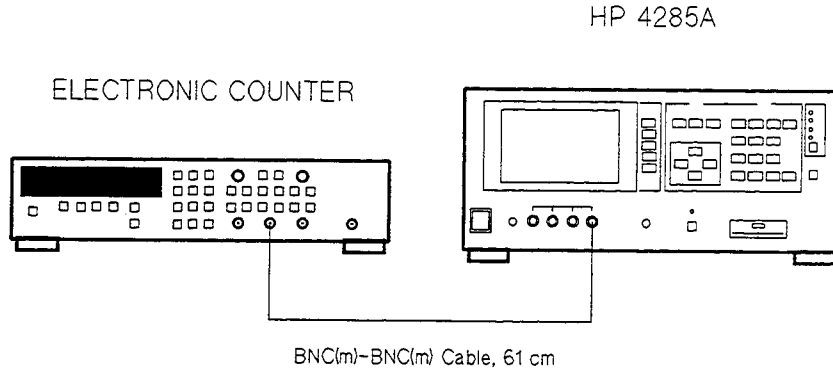

Figure 1-1. Test Frequency Accuracy Test Setup
1. Set up the equipment as shown in Figure 1-1.